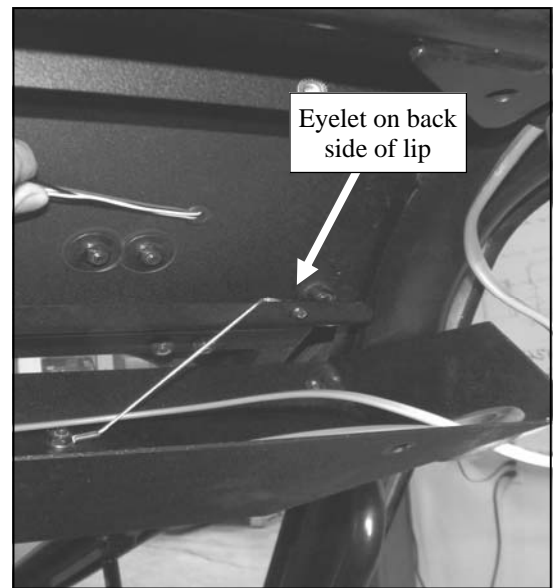

Figure 1.1 - Hang Panel (Pass. Side Shown)
1.1 Orient the switch panel so that the switches are in front of the driver's face. Using the hardware listed below, attach the two cables to the windshield support panel as shown in Figure 1.1. The cables allow the panel to hang while wire connections are made. Note: The cable should be installed on the inside of the windshield support panel as shown to prevent interference when the switch panel is installed.